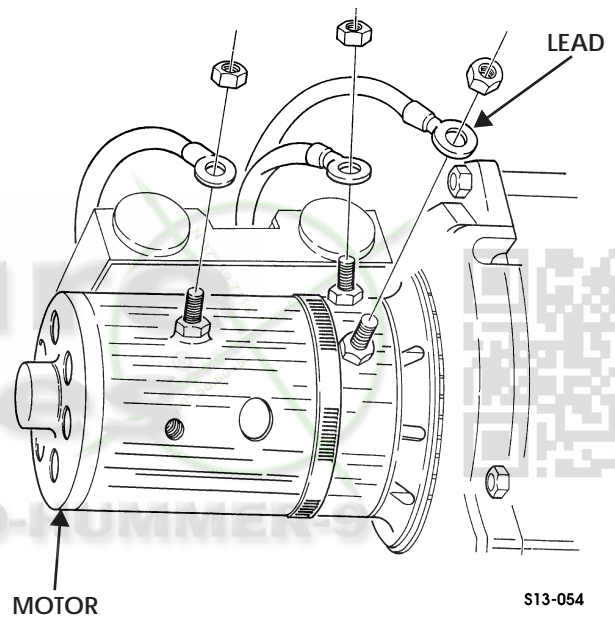

Figure 13-22: Control Leads
2. Remove three nuts and control leads from motor (Figure 13-22).